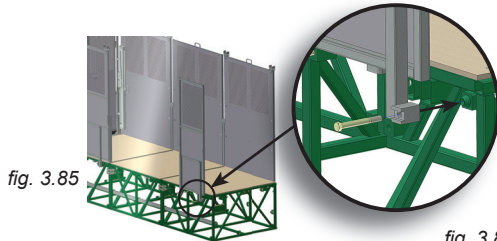

fig. 3.86
- 1- Align the bushings on the guardrail with the bushings on the bridge (fig. 3.86).